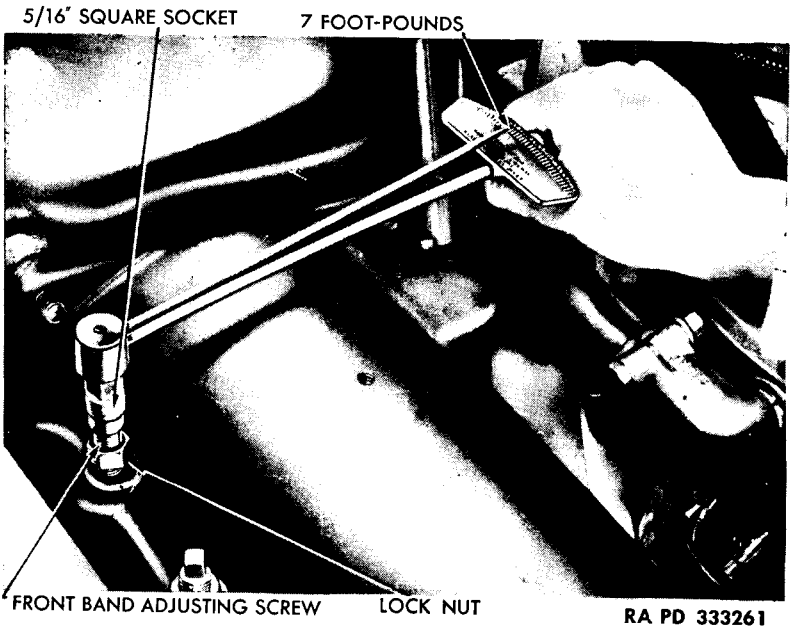

Figure 85 — Adjusting Front Band with Torque Wrench
b. Adjusting Front Band with Torque Wrench. Loosen front band adjusting screw lock nut (toward rear of vehicle). Make sure that adjusting screw is free enough to turn with fingers. Tighten front band adjusting screw to a tightness of 7 foot-pounds using wrench (41-W-3630) (fig. 85). Back off front band adjusting screw 8 full turns, and tighten adjusting screw lock nut while holding adjusting screw stationary.